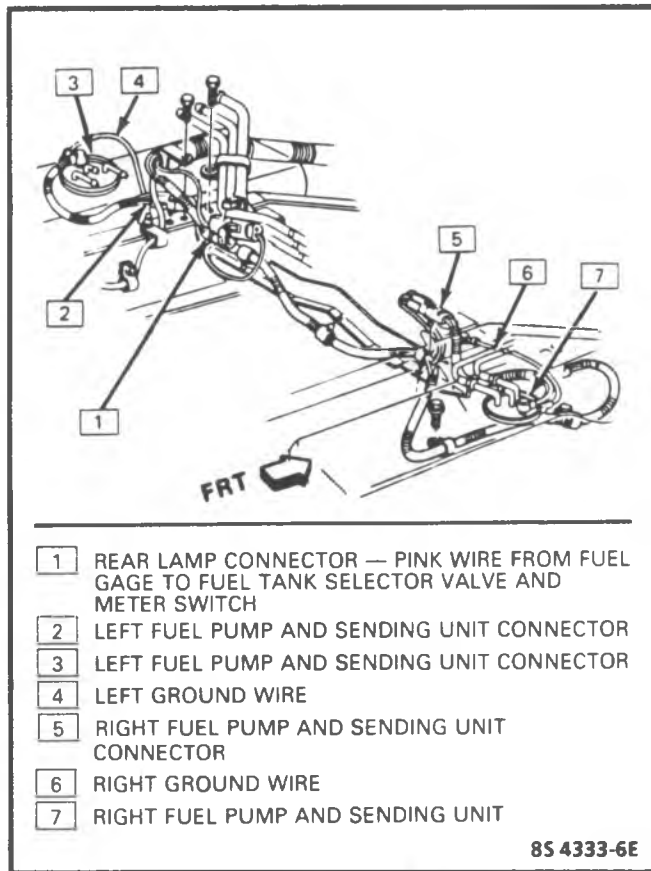

Figure 3-15 - Two Fuel Tank Wiring
- If there was no indication in either position, check for an open circuit from terminal "B" to the fuel gage. Make sure that the two terminal connector, with one pink wire that is located near the selector valve (Figure 3-15), is correctly connected.